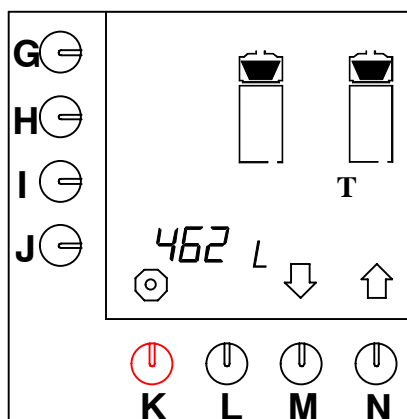

Fig. 50 Total counter coffee making system
- Press selection key (N.)↑ until fig.50 appears on the display.